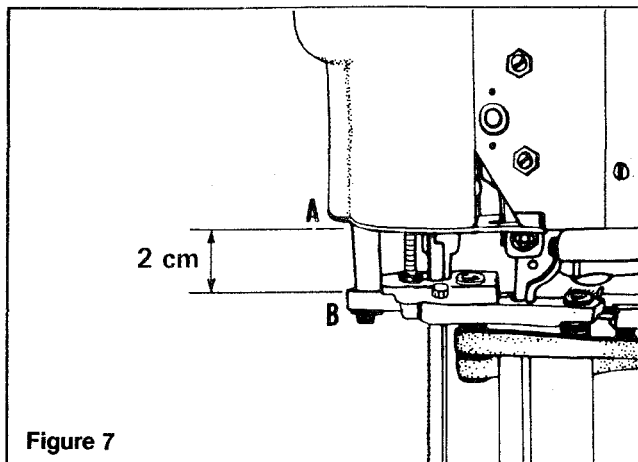

Figure 7
2.11 TO SET POSITION OF BRAKE A342 (Figure 7)
- Fig. 7: Check clearance between lower Cover "A" and top of Gear Case "B." Maximum distance is $25/32"$ (2 cm) when Brake is properly installed. If distance is greater, reset Brake as Presserfoot Leg A403 will not operate. FlexiBands A386 must not touch Blade A574.